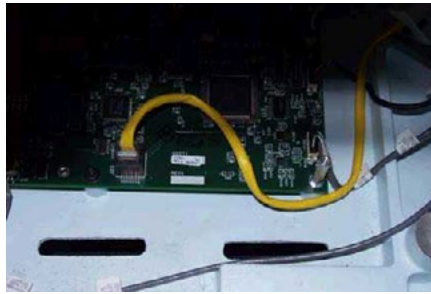

Figure 3 - User Interface Harness in PCB
*Note: Make sure that you fold the harness as indicated in Figure 3.*